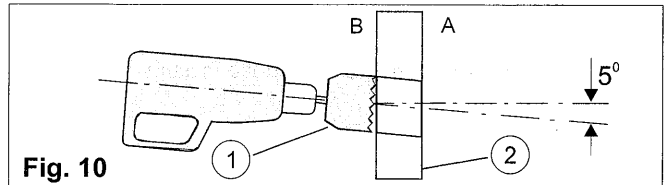

Fig. 10
PENETRATION OF WALL FOR TUBING (see figure 10)
1. Mark the location of the hole on the wall according to the tubing routing as shown on figure 10 and drill the hole at a 5° downward angle as shown.